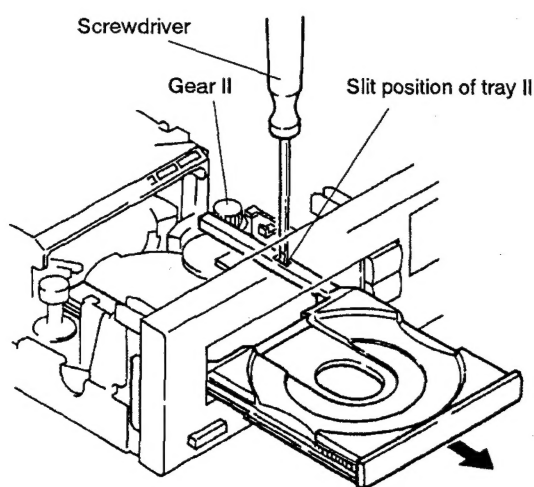

Fig. 1
- 1 Use nippers or other tool to cut the two sections marked ① in figure 1. Then remove the spacer.
- 2 While supporting the spindle motor shaft with the stopper, put spacer on top of the motor base (angled so it doesn't touch section ②), and stick the disc table on top (takes about 9kg pressure). Take off the spacer.